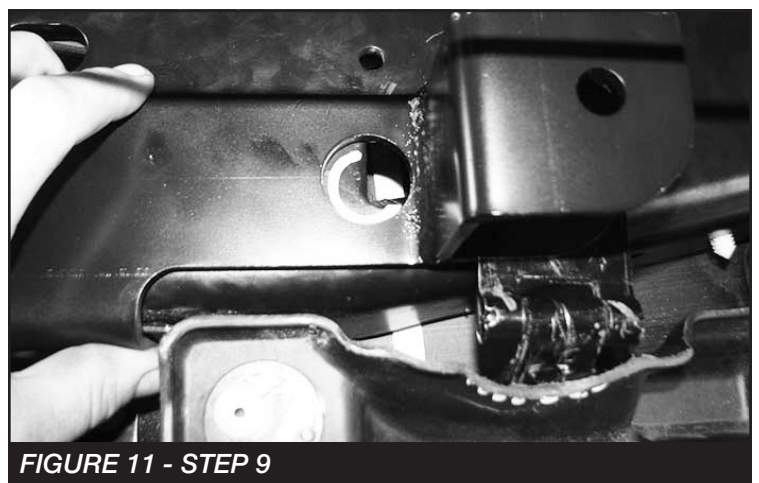
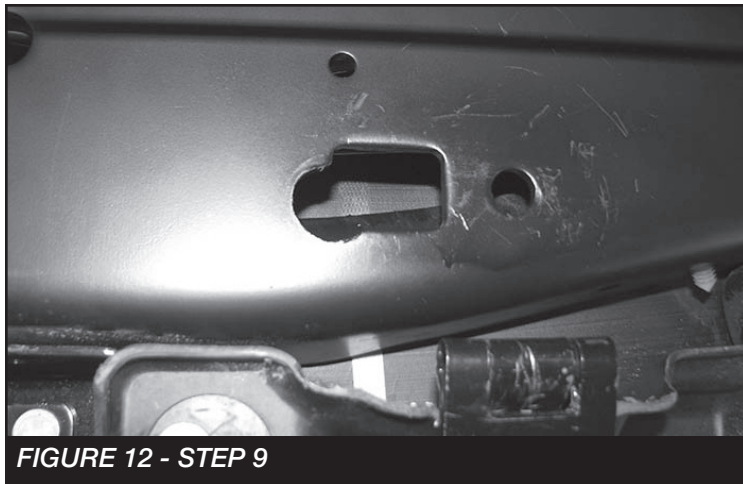

FIGURE 11 - STEP 9
FIGURE 12 - STEP 9
9. Using 1 of the factory bolts install FT30632BK (Driver frame bracket) and mark the hole **SEE FIGURE 11.** Remove the bracket. Using a barrel sander or carbide bit open up the hole. **SEE FIGURE 12.**
12. Measuring from the body mount towards the rear of the vehicle. Measure 13-1/2" and mark. **SEE FIGURE 12**